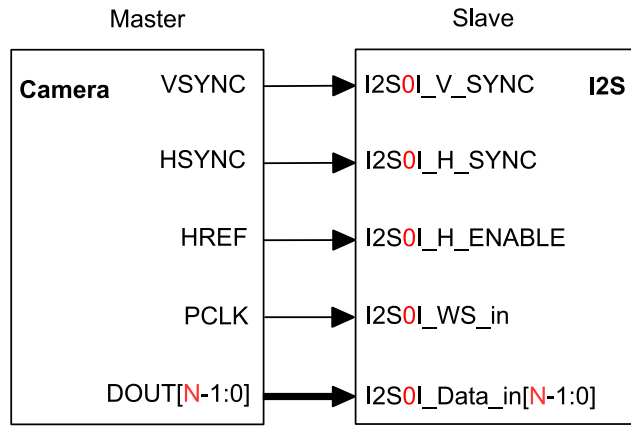

Figure 3-15. Camera Slave Receiving Mode
ESP32-S2 I2S can be configured as camera slave receiving mode for high-speed data transfer with external camera modules. In this mode, I2S module works as slave receiver with a 16-channel data signal bus `I2S0I_Data_in[15:0]`, and three more signals: `I2S0I_H_SYNC`, `I2S0I_V_SYNC`, and `I2S0I_H_ENABLE`, see Figure 3-15.
2. Configure signal pins according to Table 10 and Figure 3-15.